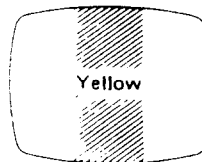

Figure 4
- (1) Produce a yellow raster by short-circuiting the base and the emitter of Q6B2 (B-OUT) with a short lead.
- (2) Loosen the deflection yoke screw and move it forward. Make certain that the yellow bar is at the horizontal center. If necessary, adjust purity magnets to center it.
- (3) Slide the yoke backwards to produce a uniform yellow raster (Figure 4).
- (4) Using the same procedure as for Preliminary Adjustment, produce a red, blue, and green primary color raster and make sure no contamination is observed for each color.
- (5) If necessary, repeat the above steps.
- (6) Tighten the yoke in position.